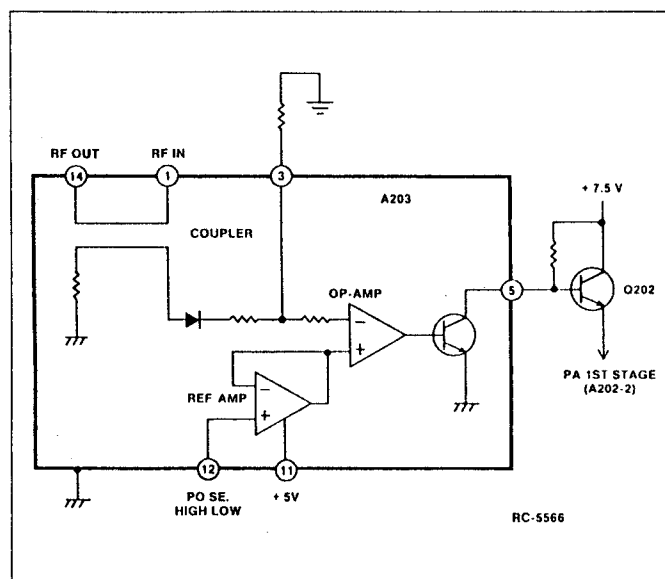

FIGURE 7 - POWER CONTROL MODULE (PC)
The RF power output of the radio is regulated by sensing variations in the RF power output of the transmit PA module to control the supply voltage going to the first stage of the PA module (refer to Figure 7). Supply voltage cannot be applied to the first stage of the PA module until the transmit circuit is keyed, applying 5.0 Volts to Pin 11 of the Power Control (PC) module A203. When the transmit circuit is keyed, the output of a reference amplifier, determined by the High/Low power control, is applied to the positive (+) input of a comparator circuit.